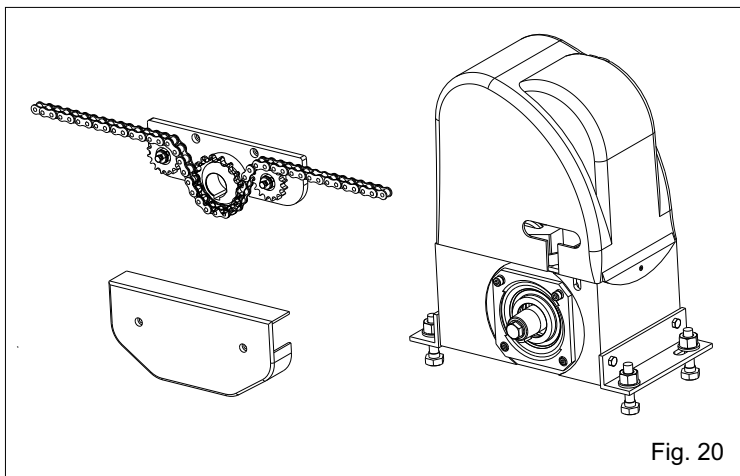

Fig. 20
The assembling of the main parts which include the whole chain automation is illustrated in Fig. 20.
**10.2.** Install the chain making it pass through the pinion group as in Fig. 20.